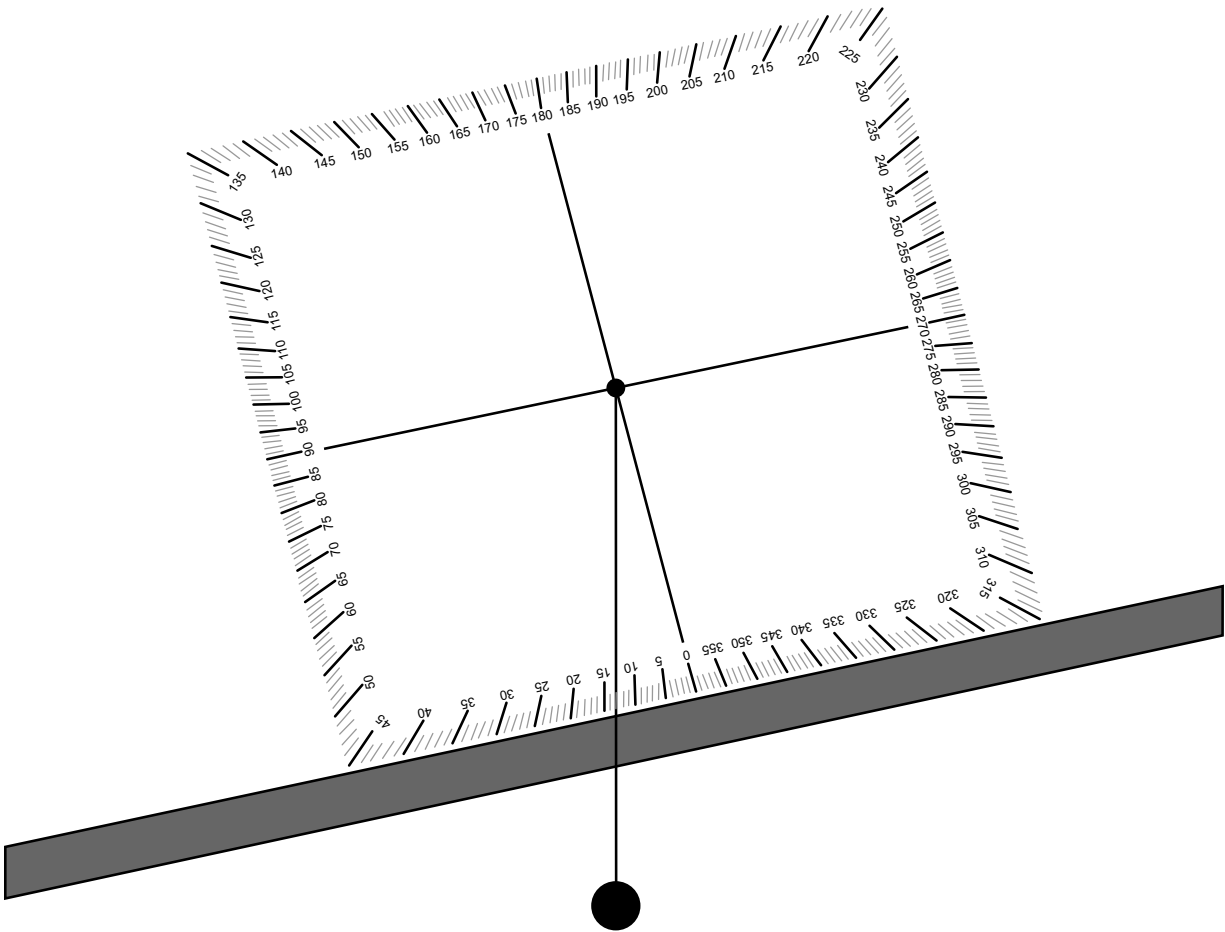

Figure 1-4. Protractor Method.
- Read the azimuth degree scale where the string intersects the protector; the number indicates the slope's angle (see Figure 1-4).